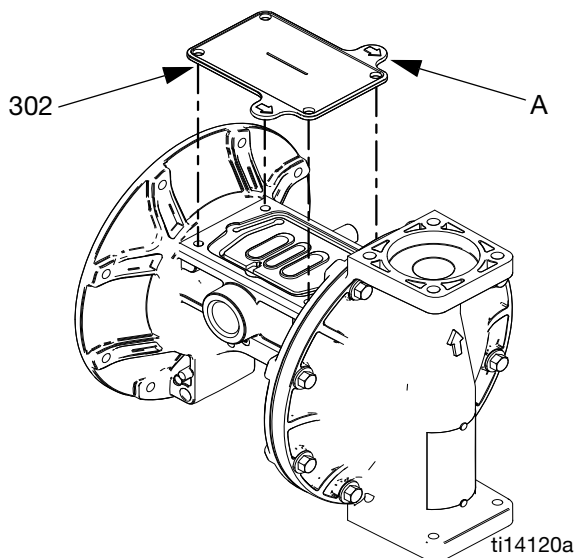

FIG. 9. Fluid cover tool
- a. See FIG. 9. Place the supplied tool (302) where the air valve gasket (108) normally goes. Arrows (A) must face toward the fluid cover that is already attached.